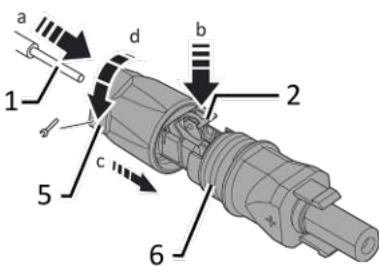

Fig. 22. Insert wires
1. Insert isolated wires with twisted ends carefully up to the connection (see Fig. 22).